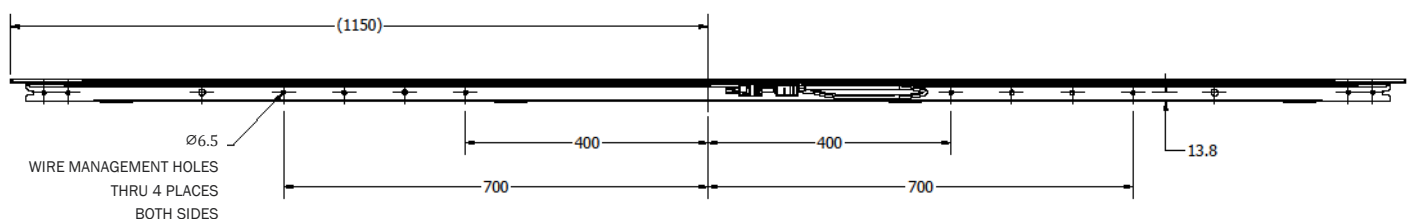

Figure 10: Wire Management Hole Dimensions
- Figure 10 below indicates locations of grounding holes for S7 FT1.